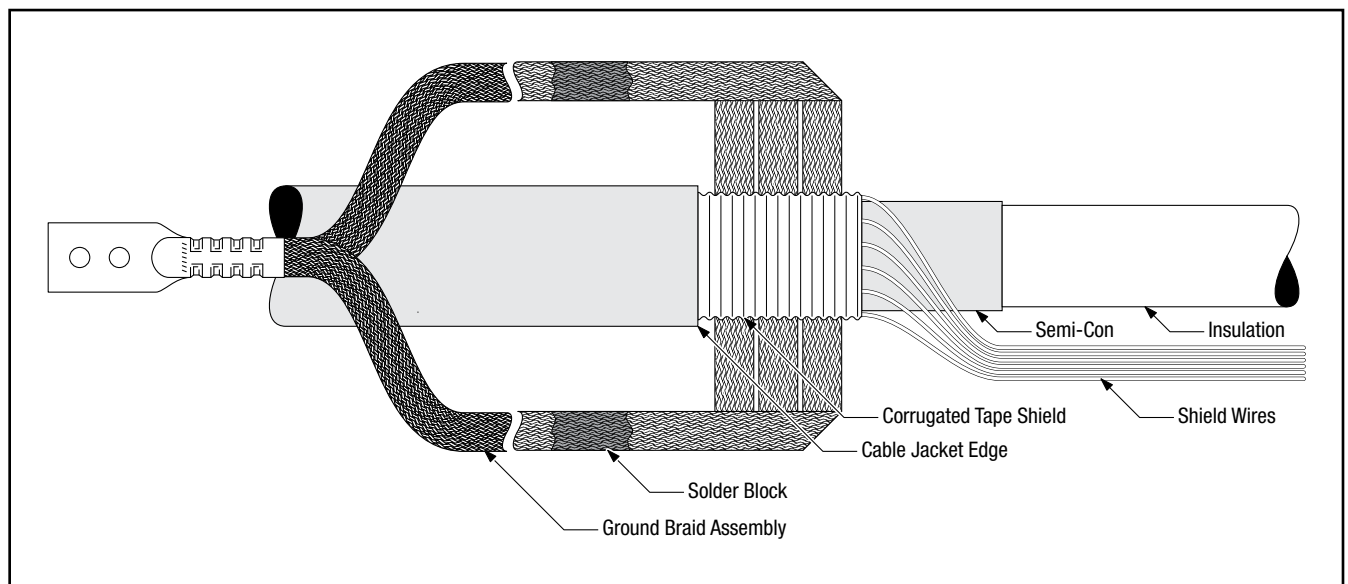

Figure 3
- 2.2 Select the pre-formed ground braid assembly from the kit. Pass the end of the cable through the ground braid assembly loop, and position the ground braid assembly around the tape shield shown. (*Figure 3*)